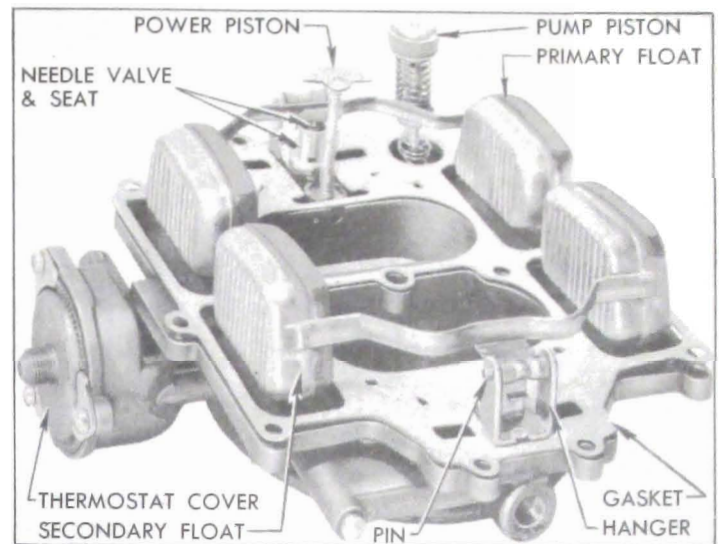

Figure 3-88—Parts on Air Horn (Inverted)
4. Remove all air horn screws, lift air horn far enough to remove the auxiliary valve lock-out slide, then carefully lift air horn straight up from main body to avoid damaging the float, pump piston, and vacuum power piston which are attached to air horn. Remove pump piston from air horn. See figure 3-88.
6. Remove needle valve seats using Wrench T-20140. Remove float hangers, seat gaskets, and the air horn gasket. See figure 3-88.
8. Remove thermostat cover (figure 3-88). Use Wrench T-25047 to remove nut from choke stem, then remove lockwashers and serrated washer.
26. Install vacuum power piston in air horn and carefully stake in place at three points. See figure 3-88. Piston must operate freely in cylinder but *do not apply lubricant of any kind.*